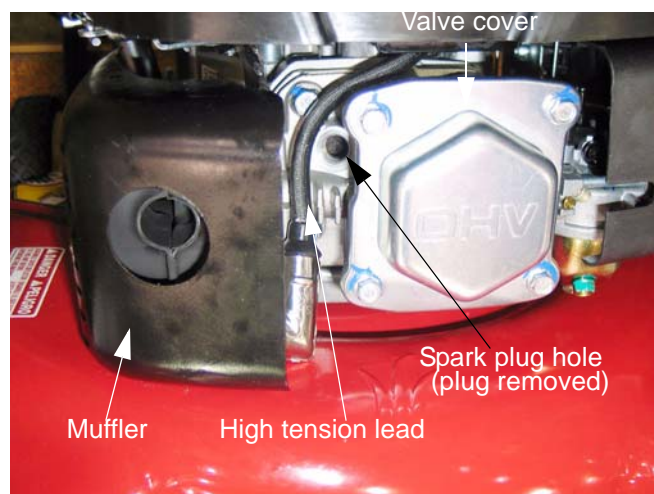

Figure 5.16
5.16. Remove the spark plug using a 13/16" or 21mm wrench. A flexible coupling or "wobbly" extension may help. See Figure 5.16.
- 5.33. Disconnect the high-tension lead from the spark plug and ground it well away from the spark plug hole. See Figure 5.16.